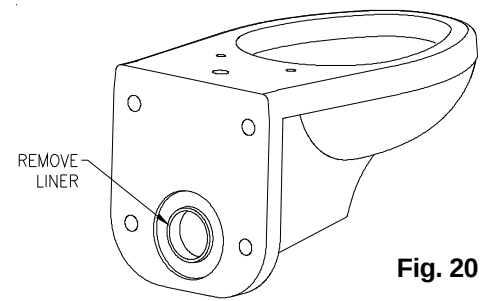

Fig. 20
18. Peel off removable backing liner from the opposite side of the gasket and hang the water closet onto the threaded rods. Ensure Neo-Seal gasket seals to the coupling. See Fig. 20